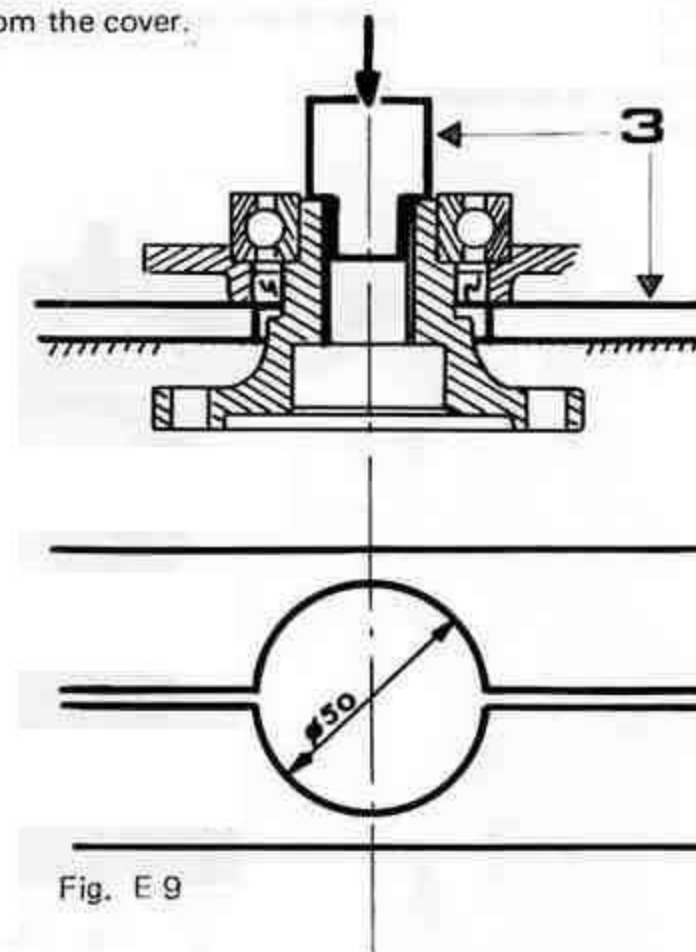

Fig. E 9
- remove the output roundel using the tooling n° 3 as shown in the figure E.9.